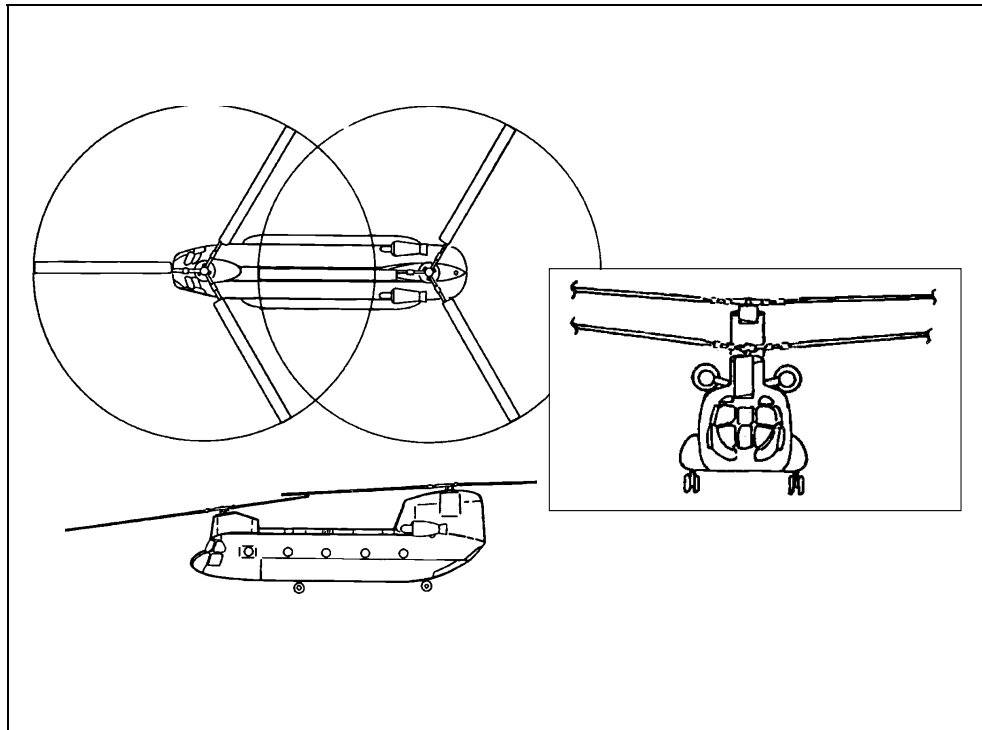

Figure B-7. CH-47B/C (Chinook).
a. **CH-47B/C Chinook.** Table B-7 shows specifications for the CH-47B/C Chinook; Figure B-7 shows the aircraft from three angles: